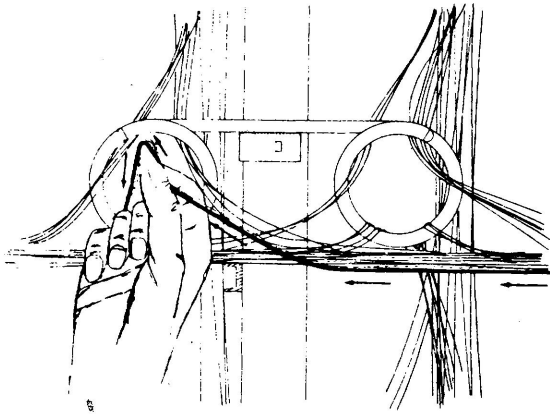

Figure 4. Right Hand Placing a Right-to-Left Jumper Into Ring at the Top Inside Edge.
5.04 Figures 4 through 6 illustrate the correct use of rings, when running jumpers, to provide acceptable results.
- (a) Run the jumper into a ring on the same horizontal level, with the jumper wire entering near the top inside edge. See Figure 4.